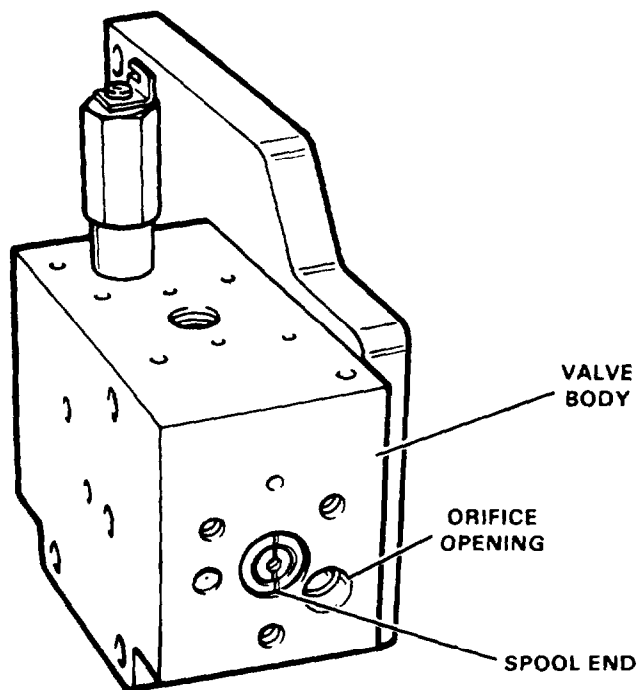

Figure 9B-31. Spool installation
7. Install O-rings (08) and (20) in the base of the hydraulic amplifier assembly. If hydraulic amplifier screens (21) were removed, install new ones by pressing them through the I.D. of the O-rings, coarse side first.
8. Install left side seal plate (15) and end plate (14) and secure with screws (28) and lockwashers (29).
9. Insert a small blade screwdriver into the spool end slot and rotate the spool end slot to a vertical position (see Figure 9B-31). Look into bushing locating pin (09) and align the hole in the spool with the center of the bushing locating pin.